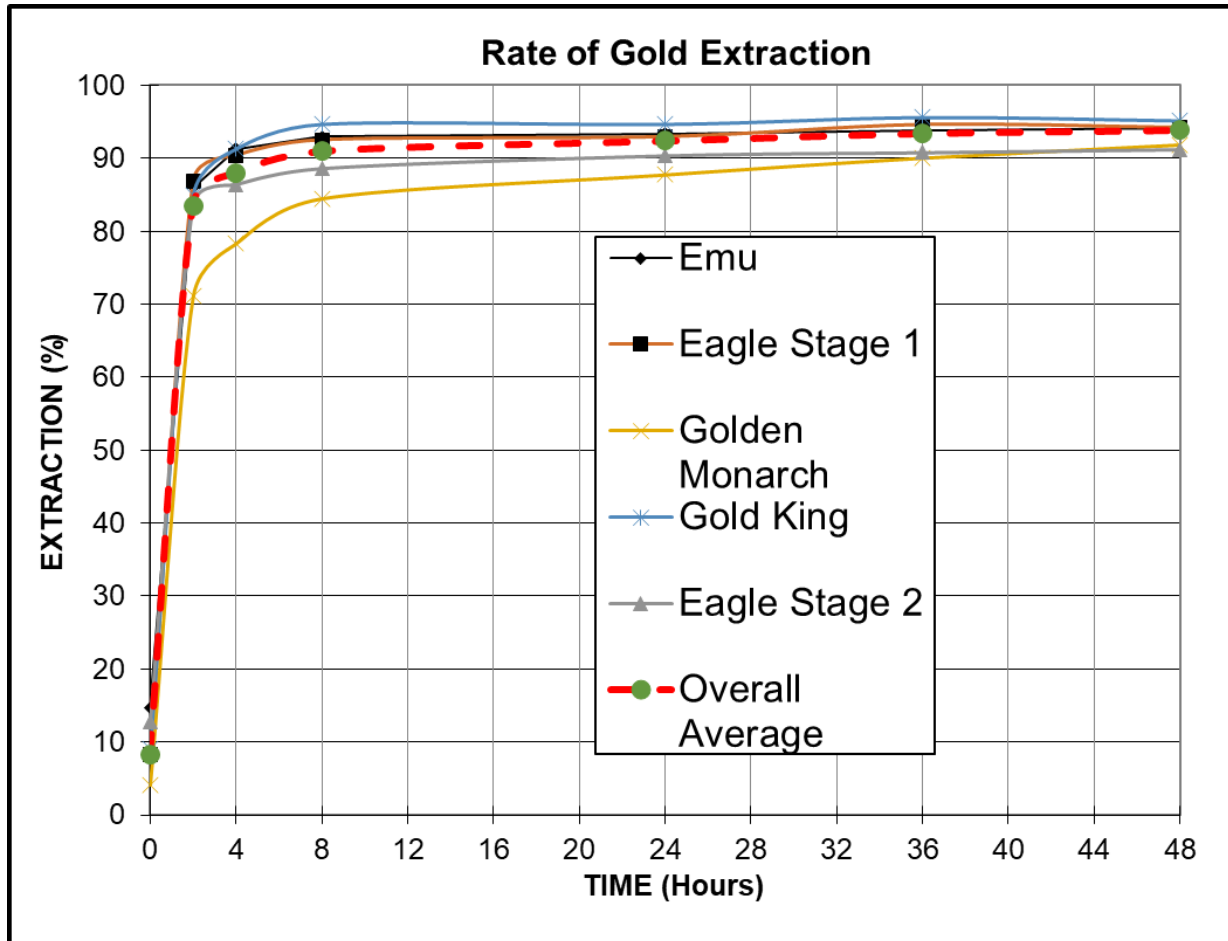

Figure 2. Cyanide Leach Test Kinetic Curves for the five composites
- Generally, gold leach kinetics were fast for most of the composites, with the majority of the gold leaching in the first 2-4 hours. Gold leach kinetics for the Golden Monarch composite were slower, with most of the gold leaching in the first 24 hours (figure 2).